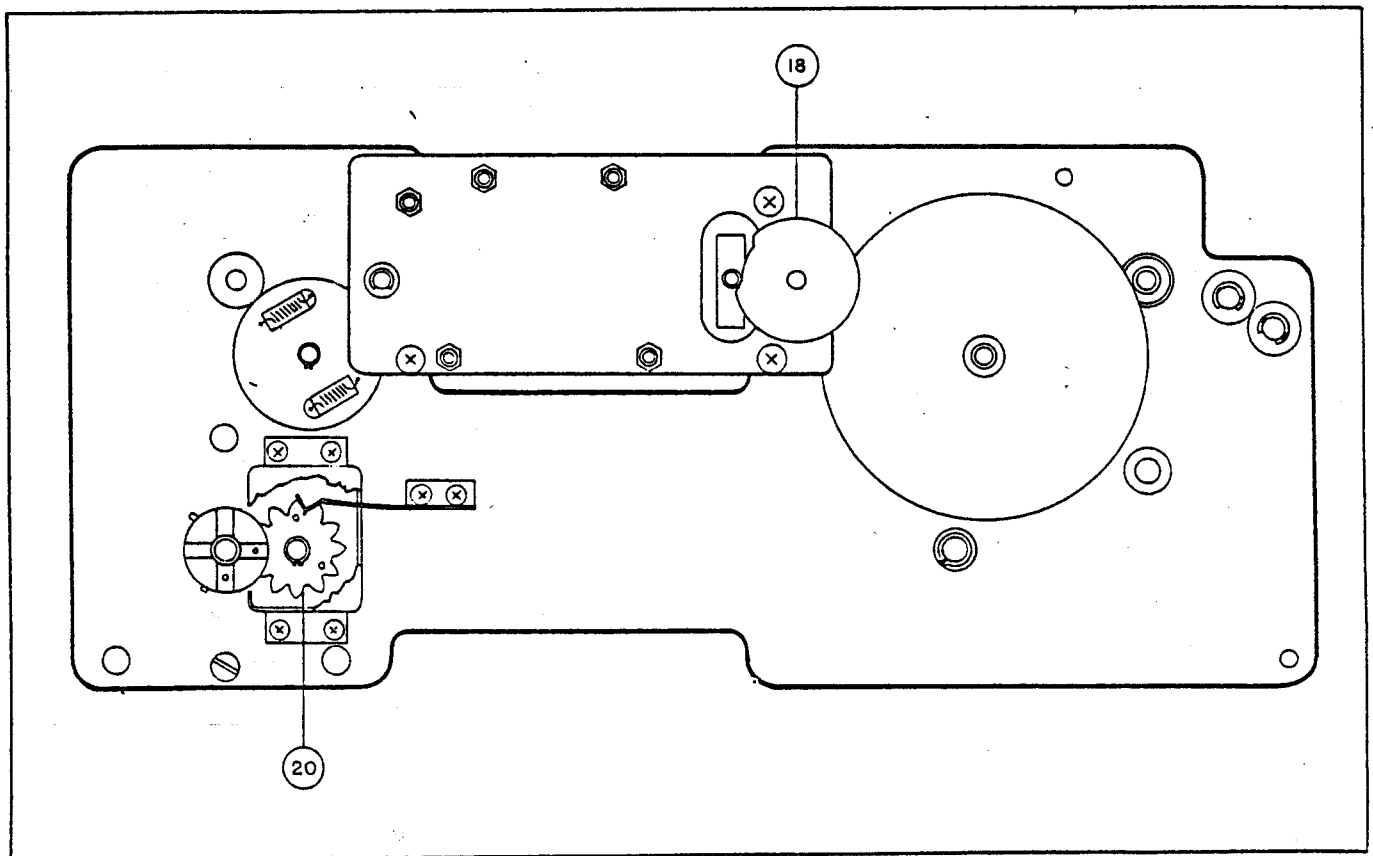

Figure 3-9. R-F and I-F Tuner Assembly, Front Plate, Rear View
- c. Install cam and shaft (item 18) as illustrated in figure 3-9.
- d. With cam (item 18) in the position indicated in figure 3-9, set the shaft and gears (item 17) for minimum end play and backlash and tighten the six setscrews.
- e. Install shaft (item 16) and gears (item 15) and set for minimum end play and backlash.
f. Install retaining ring of shaft (item 16) and tighten setscrews of gears (item 15).
g. Test operation of sliding mask by rotating megacycle counter for a reading of 4.500 megacycles. The mask should change positions. If not, loosen the setscrews of the camshaft (item 18) and set cam as indicated in figure 3-9.
h. Both positions of the sliding mask should reveal the vernier markings of the right-hand counter wheel. If not, loosen the two screws (item 21) and reset the sliding mask correctly.
i. Run the three right-hand counter wheels throughout their range. There should be an overlap of approximately 10 kilocycles at either end. If the overlap is more at one end than the other, loosen the two setscrews of any one of three gears (item 15) and reset the right-hand counter wheel.